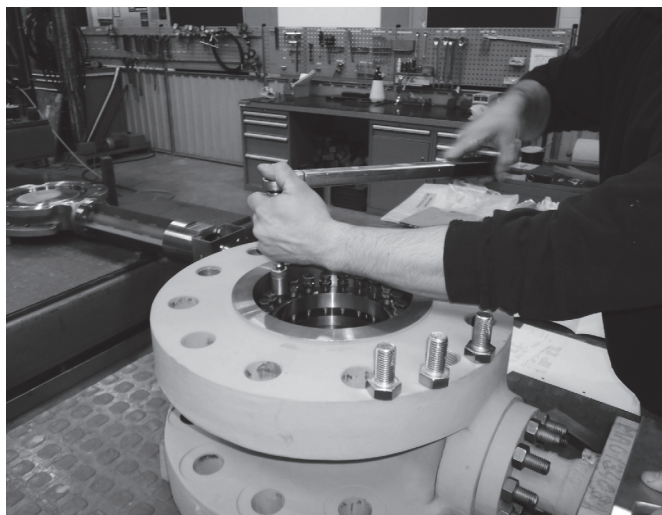

Fig. 19 Loosen the screws (306)
2. Loosen the hexagon-head screws (306) (see Figure 19).